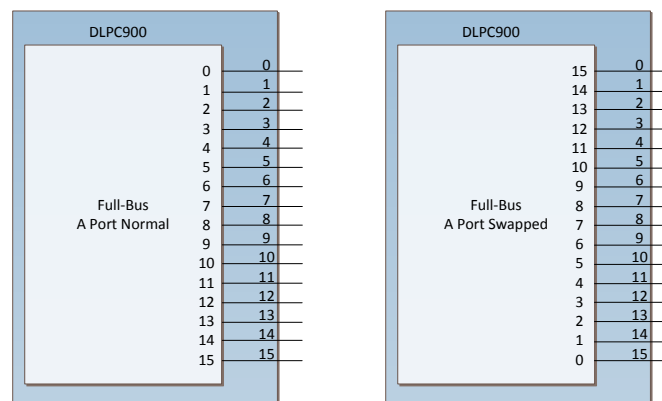

Figure 18. Controller to DMD Full-Bus Connections
- (4) The DLPC900 is a Full-Bus DMD signaling interface. Figure 18 shows the controller connections for this configuration.
- (5) The pulse duration minimum for any clock rate can be calculated using the following formulas.
Figure 18 shows the controller connections for full-bus normal or swapped. Refer to the Firmware section of the *DLP® LightCrafter™ 6500 and 9000 Evaluation Module (EVM) User's Guide (DLPU028)* for details on how to select the bus swap settings to match the board layout connections.